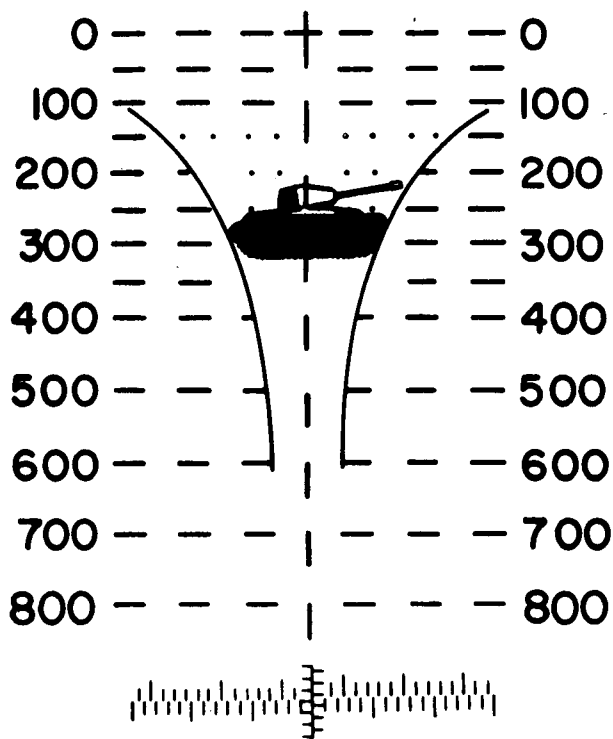
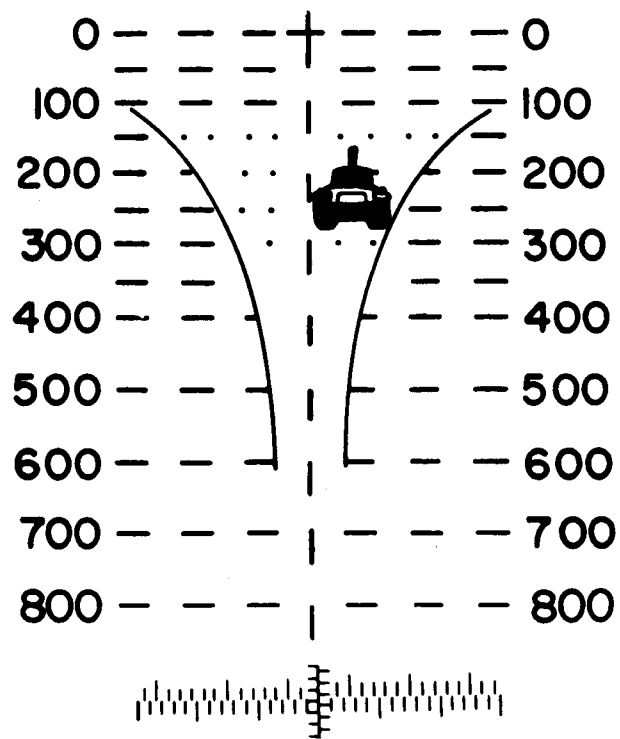

Figure 38. Full stadia picture.
Figure 39. Half stadia picture.
- (1) Ability to accurately estimate range is essential to achieve first round hits. The length of time available to fire is in many cases limited; therefore, quick and accurate determination of range is extremely important.
- (2) The methods used to determine range to a given target are:
b. Stadia Lines. The stadia lines in the sight reticle are a readily available means of estimating range (fig. 38). These lines are developed from the mil relation formula and are designed to enable the gunner to estimate range to targets having a 10- or 20-foot dimension. Most tanks are approximately 10 feet wide and 20 feet long. To
estimate range, the gunner adjusts the lay of the rifle until the target exactly fits between the stadia lines. The point on the vertical (range) line of the reticle, that corresponds to the center of mass of the target, indicates the range. The target in figure 38 is at a range of 275 meters. On targets showing more of the flank than the front, a full stadia picture is used. If more of the front than the flank is shown, a half stadia picture is necessary (fig. 39). It is important to remember that a deflection adjustment must be made from a half stadia picture to obtain the correct sight picture for target engagement.